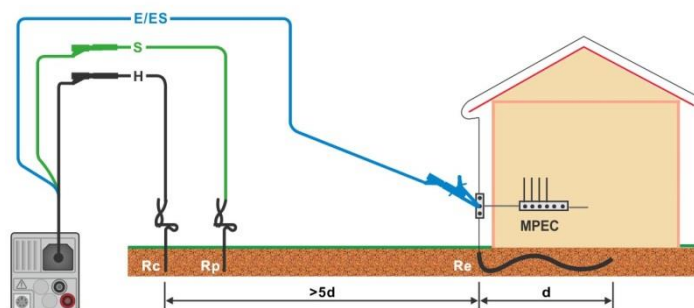
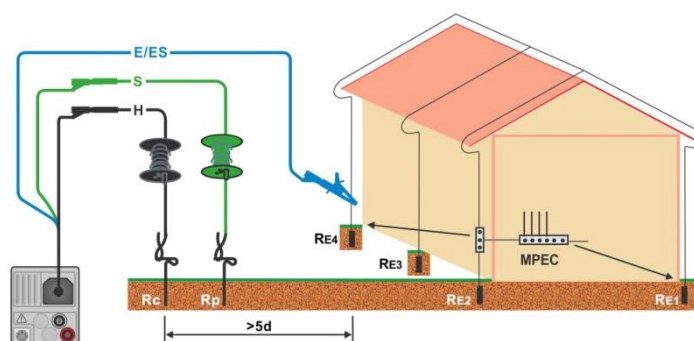

Figure 7.49: Resistance to earth, measurement of main installation earthing
Figure 7.50: Resistance to earth, measurement of a lighting protection system
- › Connect test leads to the object under test, see **Figure 7.49** and **Figure 7.50**.